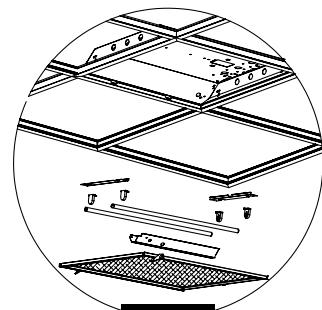

Figure 1
**1.** Prior to installation, disconnect all incoming power to fixture. Remove existing hardware (lens/lens frame, parabolic louver, reflectors/ballast covers, brackets, lamps/lamp holders). Leave supply and grounding leads.(Fig.1)